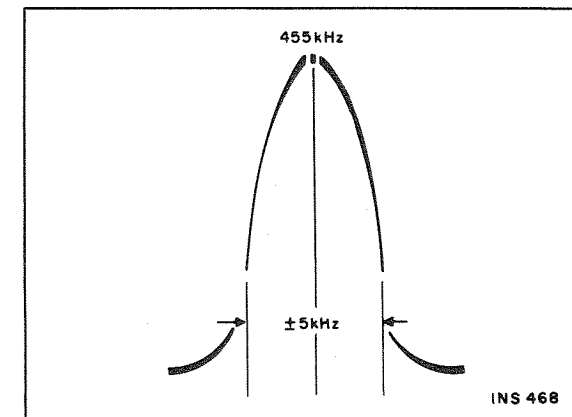

Figure 11.
(1) Connect 455 kHz sweep generator to pin 7A (on AM RF board). Use a 0.1 uF capacitor in series with the generator lead. Connect generator ground to pin 7C.
(2) Connect vertical input of scope to Test Point 302 (pin 3Q on AM/FM IF, MPX board). Connect scope ground to pin 3G. Set scope vertical input sensitivity to approximately 200 mV/cm.
(3) Adjust generator level and sweep to observe IF response curve. Set generator output as low as possible.
(4) Adjust top and bottom cores of Z303, Z301 (on AM/FM IF, MPX board), and Z701 (on AM RF board) for maximum gain and symmetry. Repeat alignment until maximum gain and symmetry are obtained (see Figure 11).